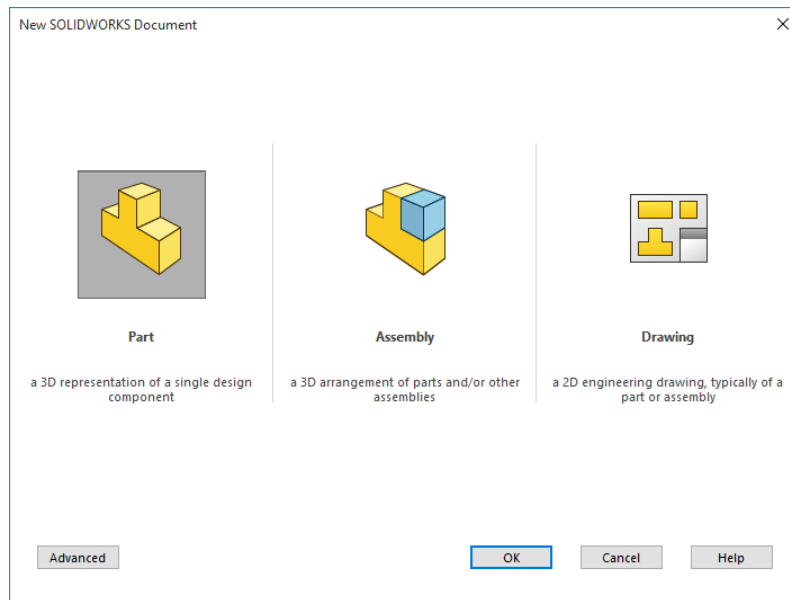

Figure 2-59 The New **SOLIDWORKS** Document dialog box
- Choose the **Part** button available in the **New** area of the **Home** tab in the **Welcome - SOLIDWORKS** dialog box. A new SOLIDWORKS part document is invoked. You can also select the **New** button from the Menu Bar; the **New SOLIDWORKS Document** dialog box is displayed, as shown in Figure 2-59.